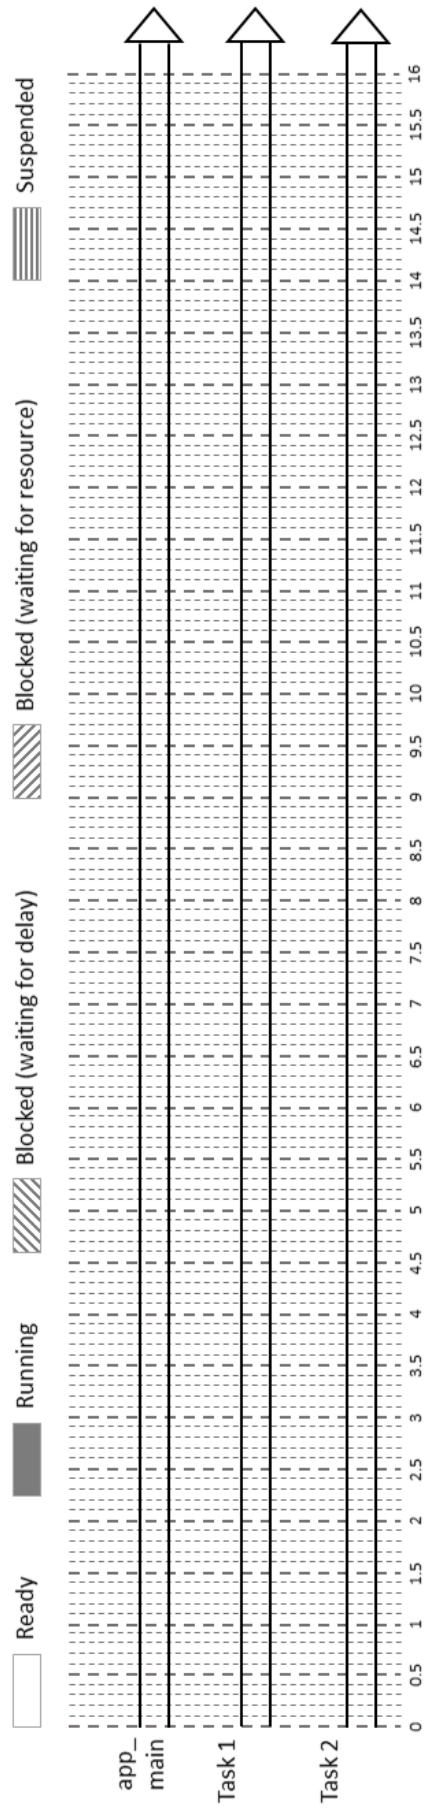

FIGURE 1.2 – Scheduling of 3 tasks.
14. For this scenario, trace in the figure 1.2 the behavior of the *app_main()*, *Task 1* and *Task 2* tasks until 160 ticks.